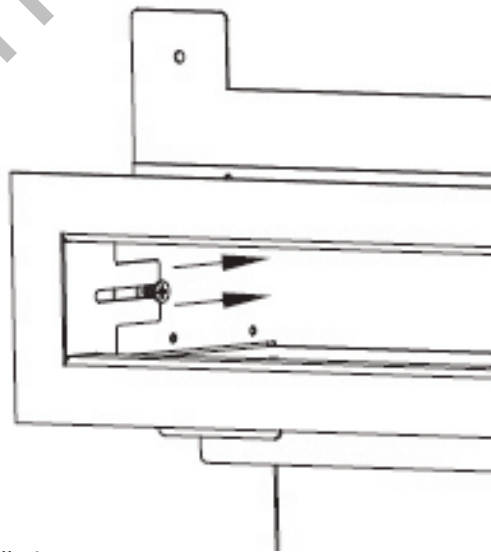

Figure 4.12 - KZK Discharge Trim Installation
7. Attach the ducts from all (4) plenum take-off collars to all (4) fireplace take-off collars on the fireplace. If you are mounting the plenum 10' (3.05m) or less above the fireplace, use (1) #KZK-410-6 kit or UL-181 Class 0 approved air duct. If you are mounting the plenum between 10' (3.05m) to 20' (6.10m) above the fireplace then you will need (2) #KZK-410-6 kits and #KZK-CPL6 or UL-181 Class 0 approved air duct.
9. Install the plenum discharge trim provided with the kit using (2) screws. See Figure 4.12.